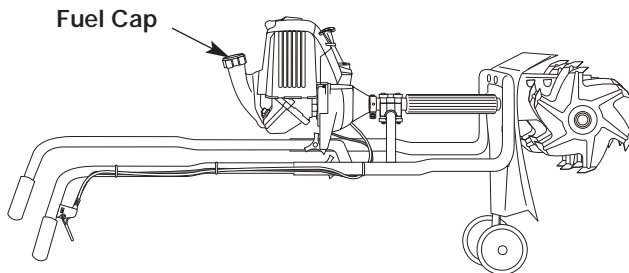

Fig. 17
2. To get a proper oil level reading, place the unit on a flat, level surface with the cultivator in a horizontal position (Fig. 17).